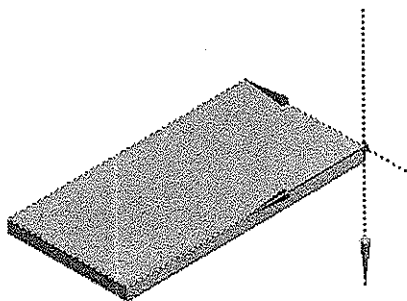

Figure 7-22 Creating a new plane on the top face of the Base Plate
- 8. Switch to the **Modeling** mode and then change the view to Isometric. Figure 7-22 shows the Isometric view of the Base Plate.